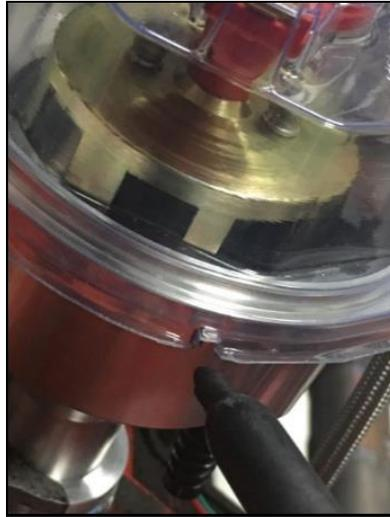

Figure 3
- Once step 5 (**Distributor Alignment**) is completed, the indentation at the base of the phasing cap can be used to mark the distributor housing to indicate where the #1 terminal on the cap will be (**Figure 3**). Note which position this is on the distributor cap. Install the cap and install the #1 plug wire. Install the rest of the plug wires based on the engine's firing order and rotor rotation.